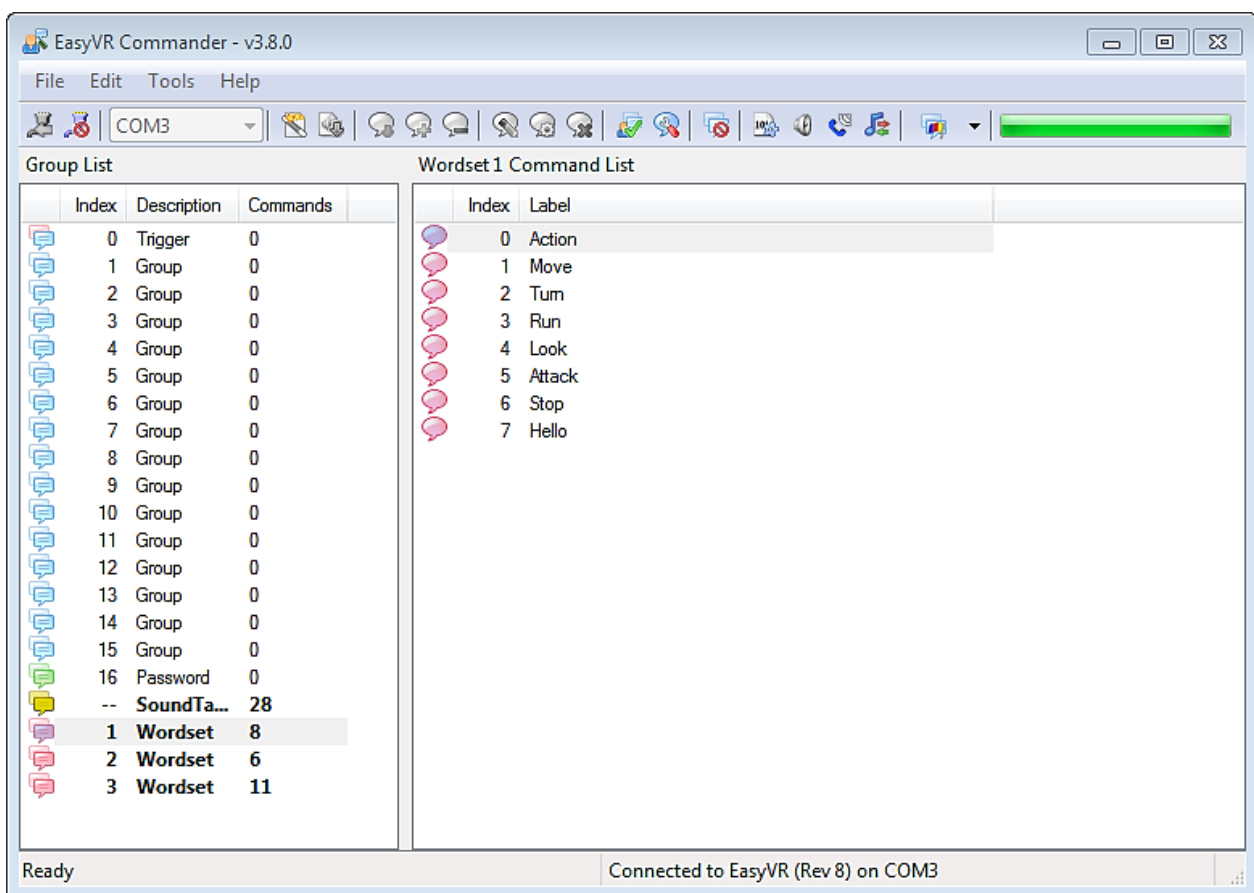
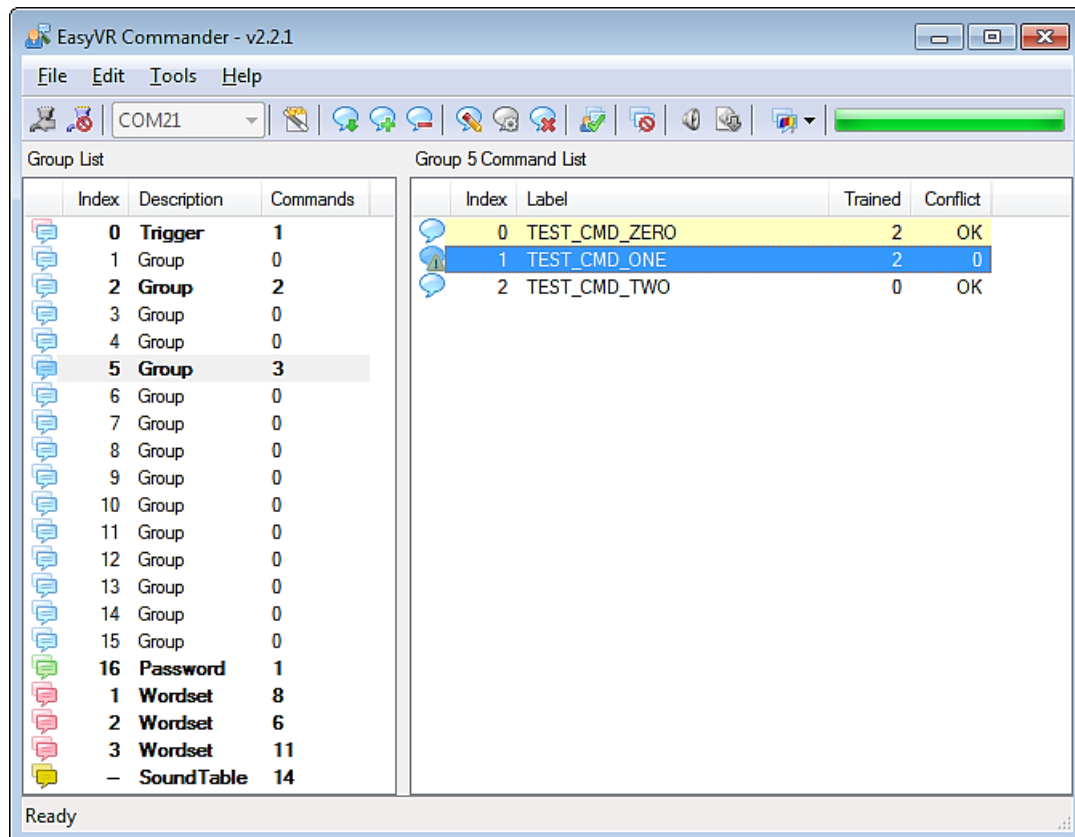

Figure 1 – Main application window
Figure 4 – Conflicting commands
There are four kinds of commands in the software (see Figure 1 and Figure 4):
- **Password** - a special group for "vocal passwords" (up to five), using Speaker Verification (SV) technology
- **Wordset** - built-in set of SI commands (for instance in Figure 1 above, the Wordset 1 is selected)
The software will also alert if a command is too similar to an existing one by specifying the index of the conflicting command in the "Conflict" column. For example, in the following Figure 4 the command "TEST_CMD_ONE" sounds too similar to "TEST_CMD_ZERO" (i.e. they have been trained with a similar pronunciation).